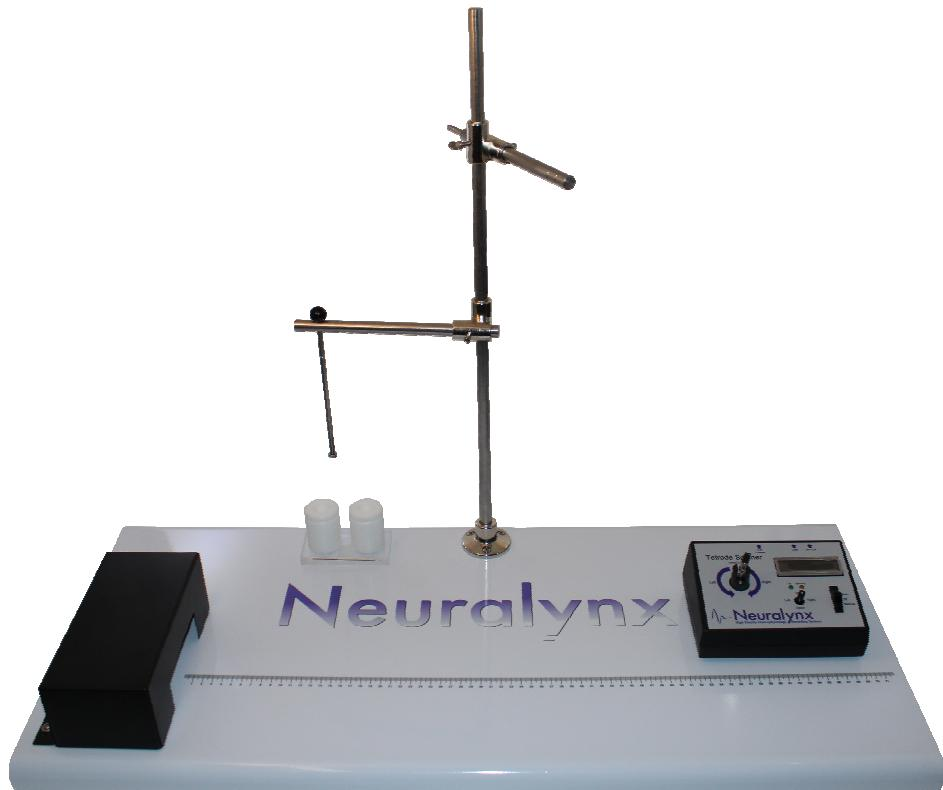

Figure 4-1 Side View of Tetrode Station
2. Open the wire dispenser (Figure 4-1) and remove tetrode wire from its box, locating the wire end.